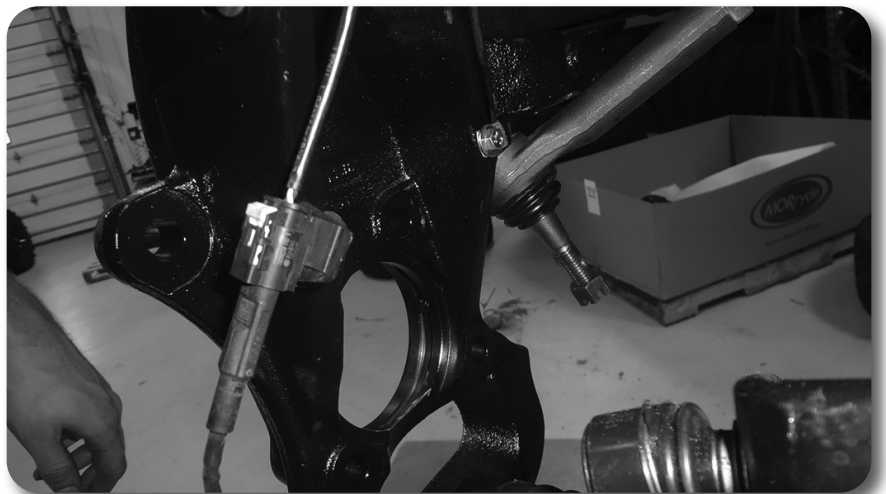

Figure 44
65. Attach the brake sensor plug to the knuckle with the factory bracket and 6mm bolts, washers, and thread locker Fig. 44. Torque to 92 in-lbs.